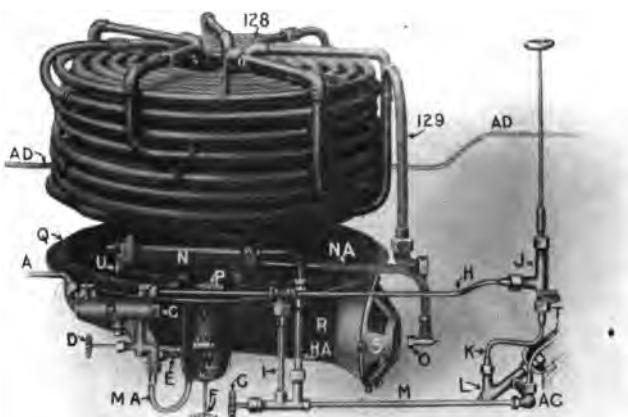
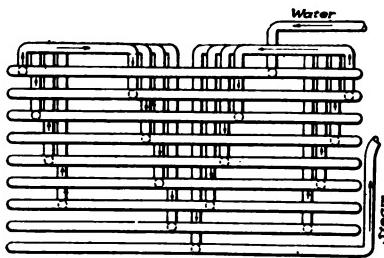
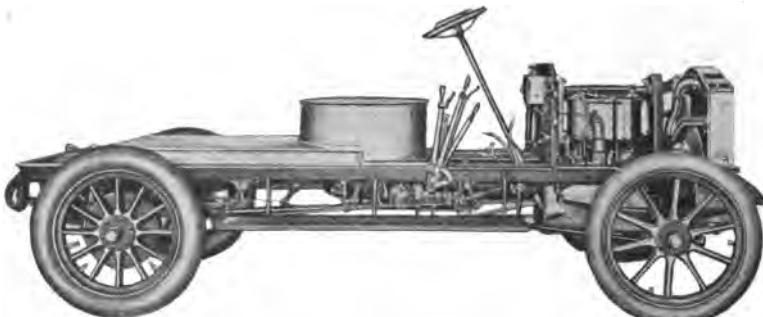

Fig. 145. Generator, Burner, and Fuel Connections of White Steam Car.
Fig. 146. Diagram Showing Circulation through Generator of White Steam Car.
Fig. 147. Chassis of White Steamer, Showing Power Plant.
Fig. 145 shows the generator of the White steam car; and Fig. 146, the circulation system. Fig. 147 shows the chassis of this car. This car uses the Stephenson link valve-motion actuated by a set
pumps, which is the case when the pressure is above 550 lbs., or it allows all the water to flow toward the generator when the pressure is less than 550 lbs. The water supply is either all on or entirely shut off, the required variation being automatically brought about by the action of the water-regulator shown in Fig. 147 B.
Fig. 147 C is a section of the White flow motor. Its action is as follows: Water enters the cylinder at 123 through a connection at the back not shown in the cut. It flows past the piston through a groove 195, and out through the branch pipe 124 to the steam generator. As the steam pressure drops and operates the water-regulator described above so as to permit a greater flow of water, the increasing flow of water forces the piston down the cylinder, compressing spring 198 to a point where the
**General Water System of a Steam Car.** Fig. 147 D shows diagrammatically the various devices in the water system of a steam car, and how they are connected.